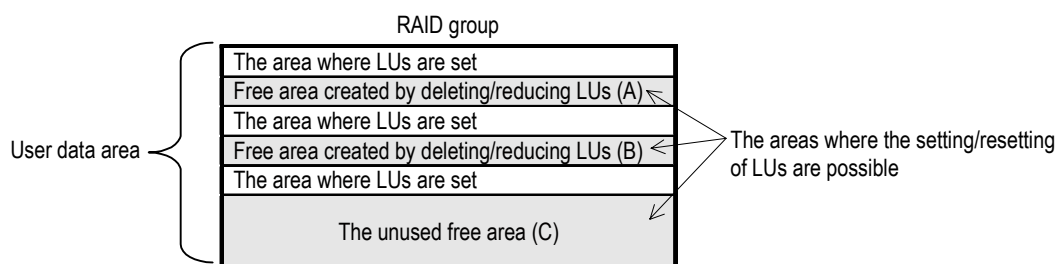

Figure 3.3.1 The Areas of LUs
The areas of LUs are shown in Figure 3.3.1.
You can create LUs without being conscious of continuity/discontinuity of free areas. When explaining it with Figure 3.3.1 as an example, you can create LUs up to the capacity totaling the free areas (A), (B) and (C). Internally, create LUs of the capacity necessary for each free area, and unify them.
- When “Free area created by deleting/reducing LUs” and “unused free area” are consecutive on the address, those free areas are merged, and become one “unused free area”. Although LUs other than the LUs adjacent to “unused free area” shown in Figure 3.3.1 are deleted, the capacity of “unused free area” does not increase.
- If the LUs created between the user data areas are deleted/reducing, the areas where LUs are deleted ((A) and (B)) are made. LUs can be created again in each divided free area of (A) and (B) within the capacity range of each free area.
- You can expand LUs without being conscious of continuation/discontinuity of free areas. When explaining it with Figure 3.3.1 as an example, you can create LUs up to the capacity totaling the free areas (A), (B) and (C). Internally, create LUs of the capacity necessary for each free area, and unify them to the target LU. The free areas are used as needed in order from the free area of the small LBA (Logical Block Address) in default. Moreover, the unused maximum LUN is automatically assigned to the LU newly created in each free area, and they are unified to the target LU to make one LU.
- When the “free area created by deleting/reducing LUs” and “unused free area” are consecutive on the address, those free areas are merged and become one “unused free area”. Although LUs other than the LU adjacent to the “unused free area” shown in Figure 3.3.1 are reduced, the capacity of “unused free area” does not increase.
- If the LUs created between the user data areas are reduced, the areas (A) and (B), where the LUs are reduced, are made. You can create the LUs again in each divided free area of (A) and (B) within the capacity range of each free area.